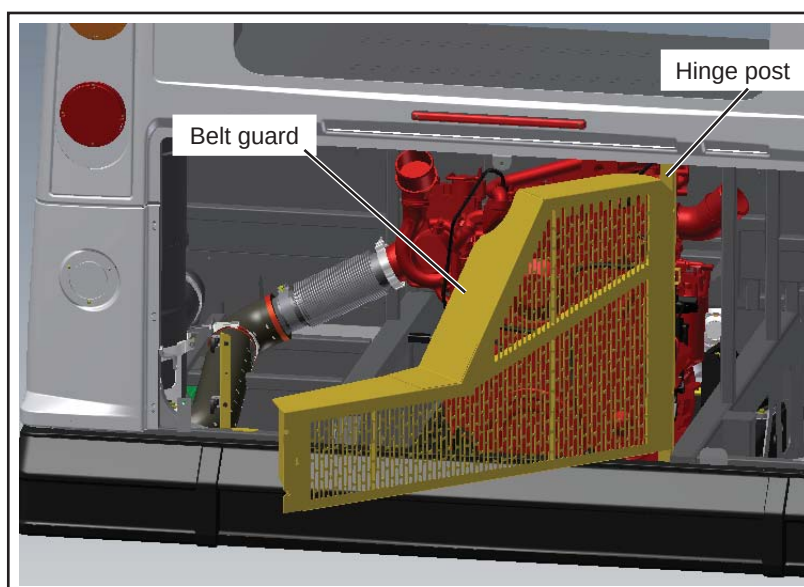

Figure 2 - Typical Location of Belt Guard
- 1.2. Identify and open the belt guard. See Figure 2.